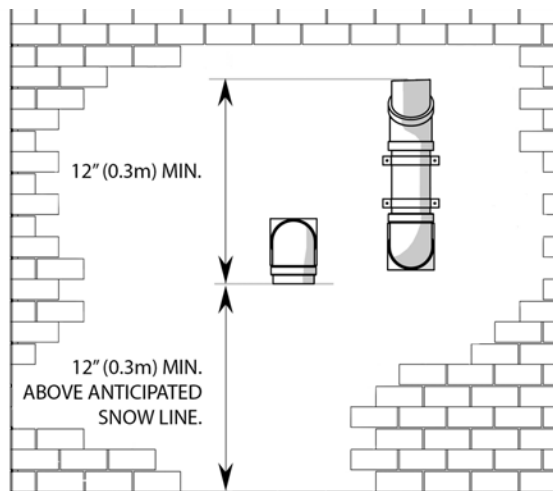
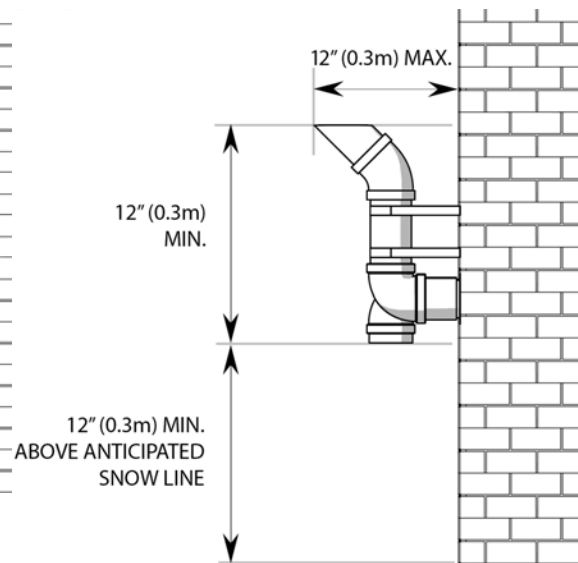
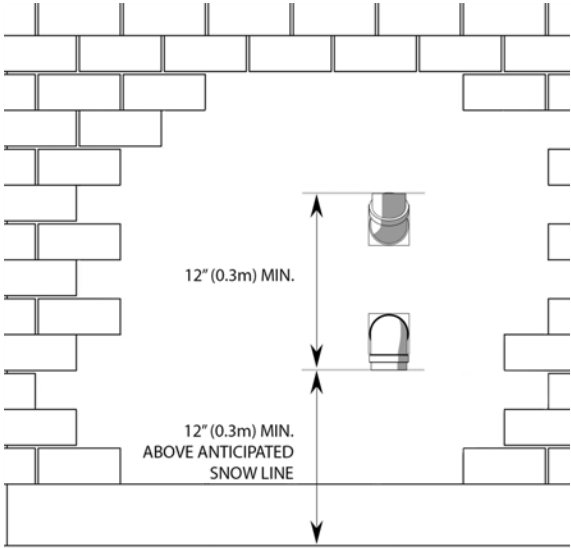
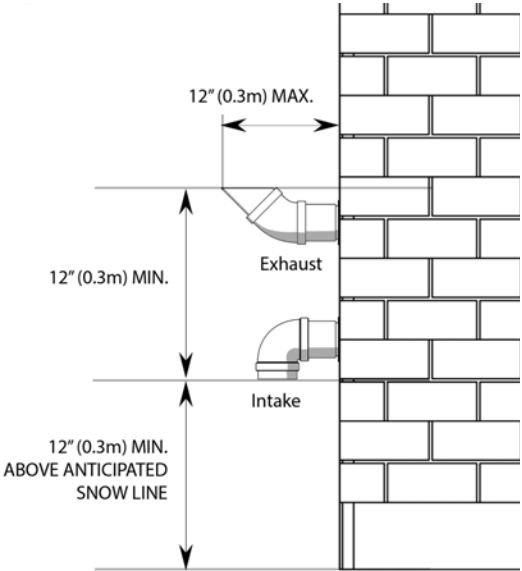

Figure 17 Vent termination clearance, side-by-side perforations
Figure 18 Vent termination clearances, side-by-side perforations, side view
Figure 19 Vent termination clearance, stacked
Figure 20 Vent termination clearances, stacked, side view
- (Optionally) Raise the elevation of exhaust termination "periscope style" after passing through the wall, to gain the required clearance as shown in Figure 17 and Figure 18.
- Use a 45° elbow on the exhaust termination to launch the plume up and off the sidewall (for protection of wall). A short piece of venting cut at 45° gives a horizontal termination protected from wind loads (see Figure 18, and Figure 20).
Important!: Maintain at least the minimum separation of exhaust vent termination from boiler intake air as illustrated in Figure 17, Figure 18, Figure 19 and Figure 20. Failure to do so can result in a dangerous situation where exhaust gasses are re-ingested with combustion air. Damage to the boiler can result from a failure to maintain these separations. Third party vent termination kits and concentric wall penetration kits that do not maintain these minimum separations must **not** be used. Improper installation will void the warranty.